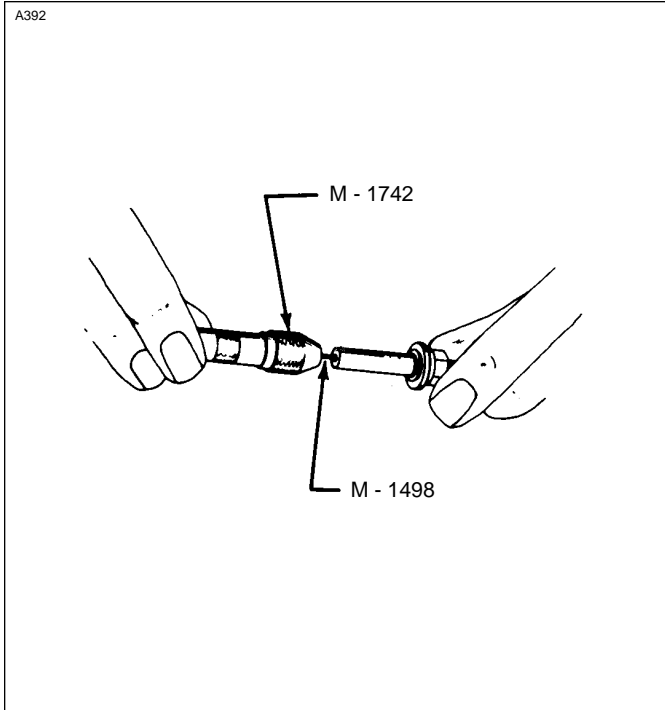

Figure 8-24 Installation of Electrical Screw
- m. Clamp the threaded end of the M-1498 Electrode Screw in the M-1742 Pin Vise. Insert the tapered pin of the electrode screw into the center of the coiled conductor by turning the pin vise counterclockwise and pushing at the same time until the screw is flush with the insulation. This is done at both ends of the wire assembly. Refer to Figure 8-24.